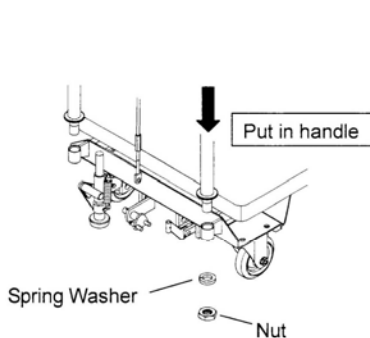

Figure 2
- Fig.2 Remove the nuts and spring washers from the end of the handle. Insert the handle with lowering release lever rod into the handle holes. Tighten down the handle using the nuts and washers.
- During table lubrication, inspection or maintenance work, raise the table up to maximum height and insert two maintenance wood stops (3/4" x 1 1/2 x 14") into the scissor guide and secure it to the frame using shipping tape (Fig. 2) or engage the mechanical height lock.